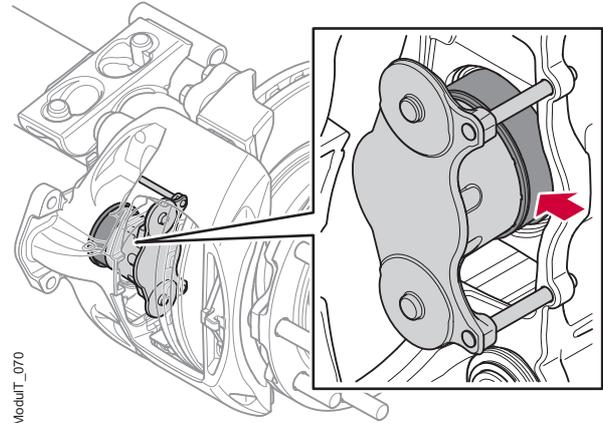

Figure 29. Inspect the adjustment spindle bellows
3. Inspect the adjustment spindle bellows, see figure 29. Look all around the bellows for damage signs that could have been caused by debris, stones or overheating.